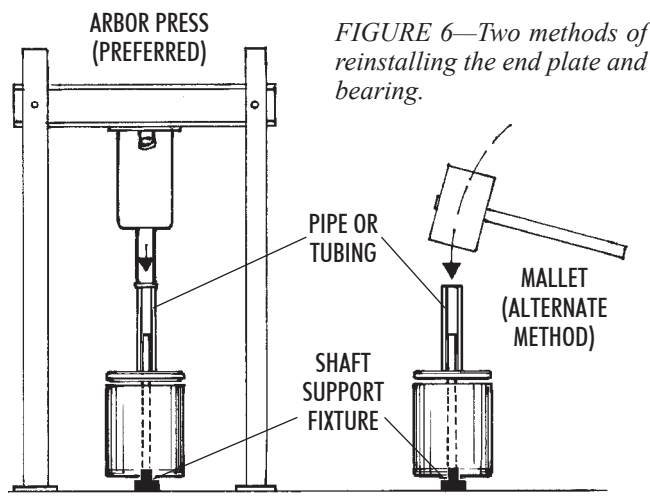

FIGURE 6—Two methods of reinstalling the end plate and bearing.
2. Use an arbor press to press the front cover and bearing back onto the motor shaft (See figure 6). Use a fixture similar to the one shown in Figure 5 or an equivalent method to support the end of the motor shaft while pressing the bearing onto the shaft. A tube with about a 5/16" inside diameter should be used over the motor shaft so that pressure is transferred only to the inner race of the bearing. **NOTE:** If an arbor press is not available, use the tubing and a mallet to gently and evenly drive the bearing down the shaft until the cap seats in the motor body. There is a bump on the perimeter of the cap that mates with a notch in the motor body to locate the cap in the proper position.